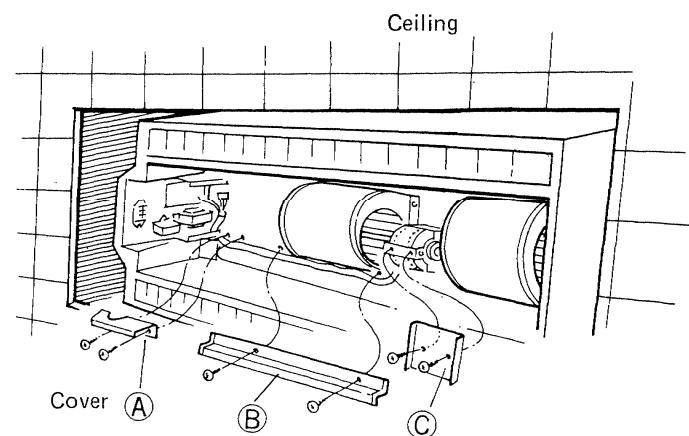

Fig. 6
- 1) Remove the cover ⑩(A), ⑩(B), and ⑩(C). Fig. 6